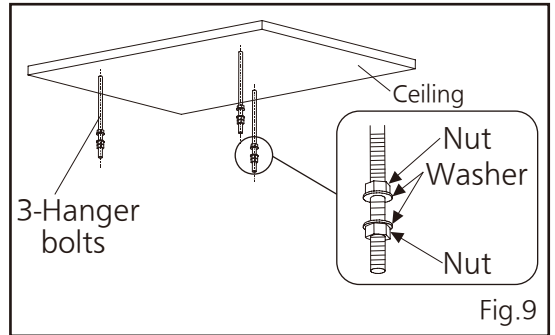

Fig.9
2. Install hanger bolts on ceiling, and put washers and nuts on bolts. (Hanger bolt, nut and washer should be M8-M10 and no provided.) (Fig.9)